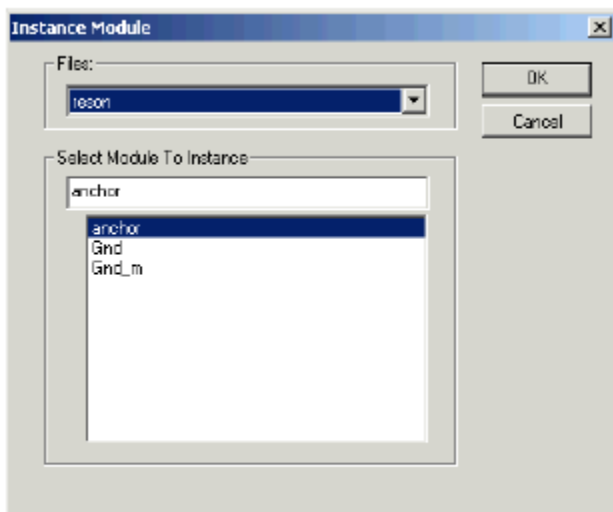

Figure 4: Instance Module browse box
- ✂ Select the anchor (**anchor**) symbol (see Figure 4).